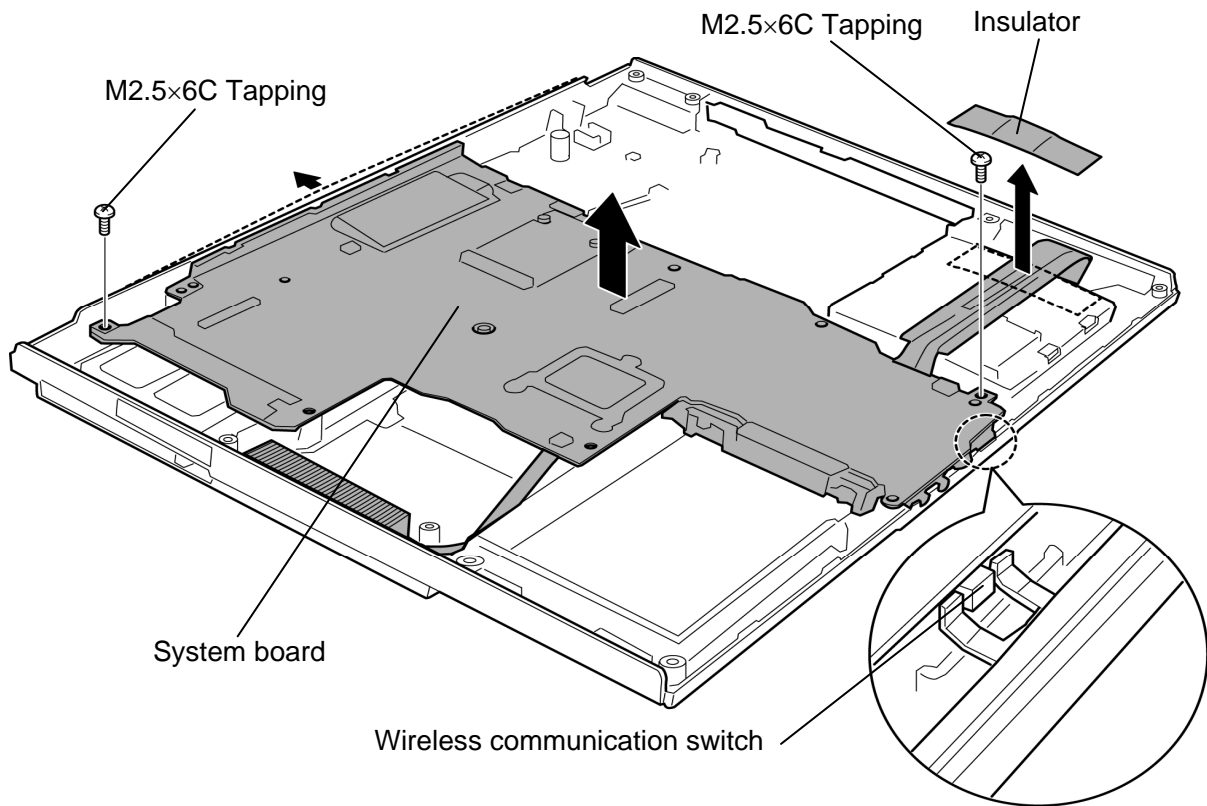

Figure 4-29 Removing the system board
To remove the system board, follow the steps below and refer to Figure 4-29.
To install the system board, follow the steps below and refer to Figure 4-29.
1. Install the **system board** to the slot of the base assembly and secure it with the following **screws**. Install the small arrow portion in the figure 4-29 first.